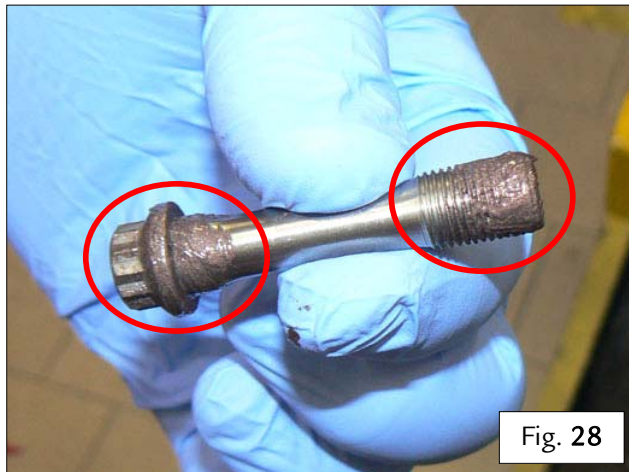

Fig. 28
- 1A.65 Check that the threads on the indicated screws fastening the big end caps are in good condition – Fig. 28.
- 1A.66 Apply **CASTROL OPTIMOL PASTE PL (PLB07)** lubricant to the undersides of the heads and the threads of the screws fastening the big end caps – Fig. 28.